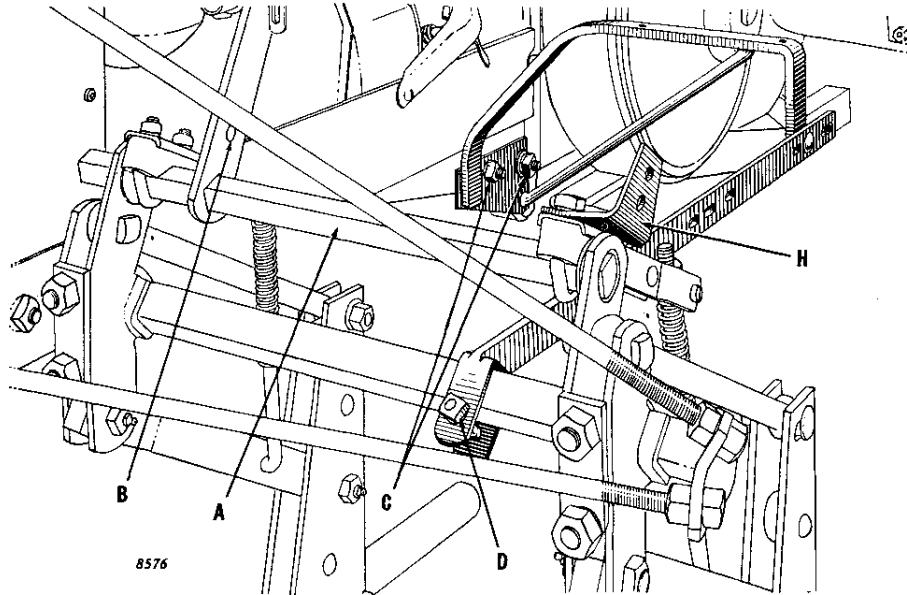
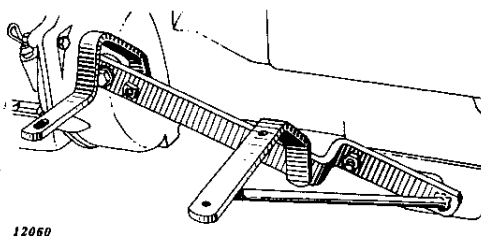

Figure 2
Figure 3
1. Bolt the hopper supports to tractor. (These are right and left.) For Models "B," "A," "G," "50," and "60" Tractors, attach as at "C," Figure 2. To attach to the Model "MT" and "40" Tractors, see Figure 3. (These are right and left.) When installing on a Model "G" Tractor, use the machine bolts that are shipped with the drive sprockets and chains.
2. Attach hopper support brace to cultivator frame and hopper support, see "D," Figure 2, for Models "B," "A," "G," "50," and "60" Tractors.
5. Attach throw-out bracket as shown at "H," Figure 2.